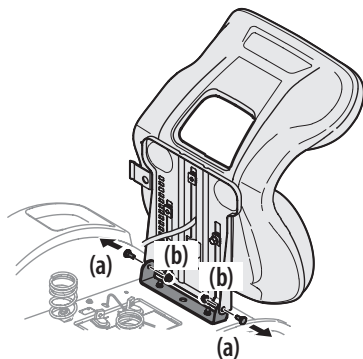

Figure 2
2. Remove the two shoulder bolts (a) and flange lock nuts (b) in the seat pan as shown in Figure 2.